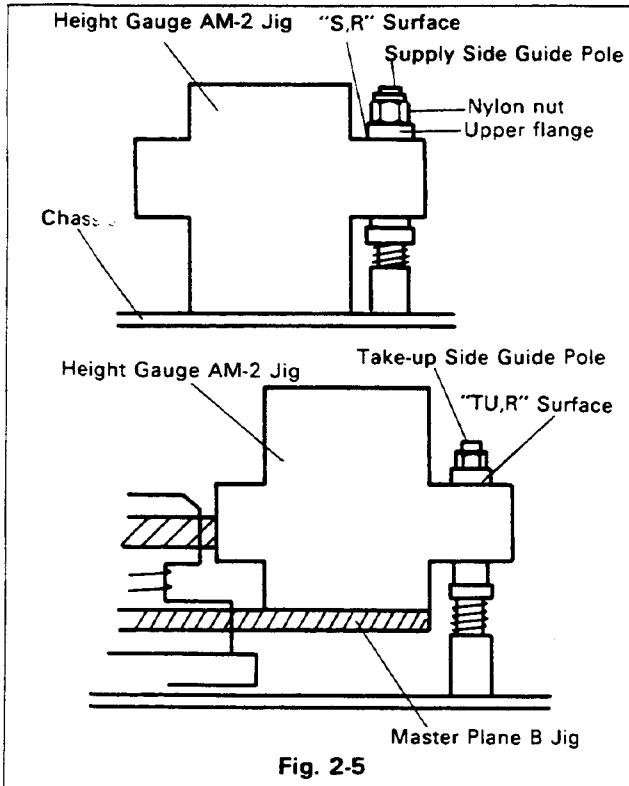

Fig. 2-5
- (1) To adjust the height of supply-side guide pole, set the Height Gauge AM-2 Jig (J-12) on the chassis as shown in Fig. 2-5 and rotate the nylon nut to adjust to the height of the lower surface of the upper flange.
(2) To adjust the height of take-up side guide pole, place the Master Plane B Jig (J-13) on the chassis, and place the Height Gauge AM-2 Jig (J-12) on J-13 with the side marked "TU, R" facing up as shown in Fig. 2-5.